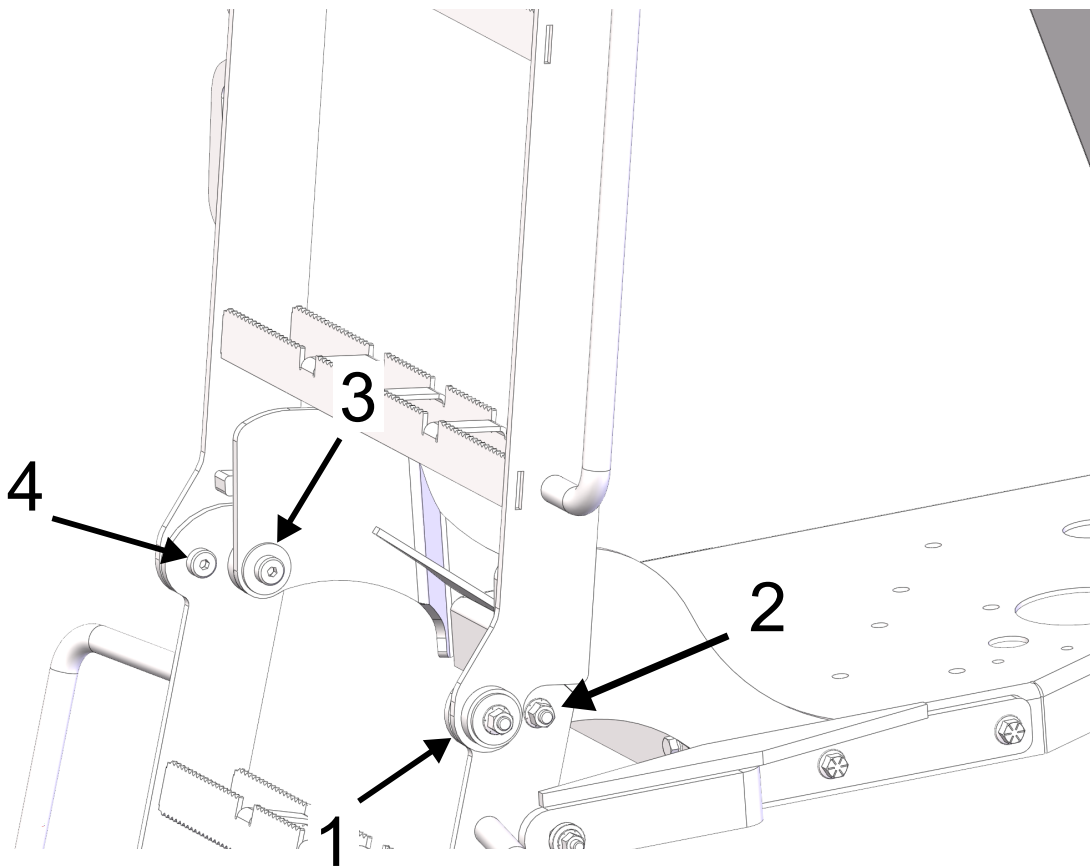

Figure 1
3. Use a wrench to remove the existing bolts, washers, and nuts that secure the assembly at Item 1 in Figure 1. Discard the existing hardware.
4. Use a bolt, nut, and washer to secure the assembly joint at Item 1 in Figure 1. Use a torque wrench to torque the nut to 33 ft.-lbs.